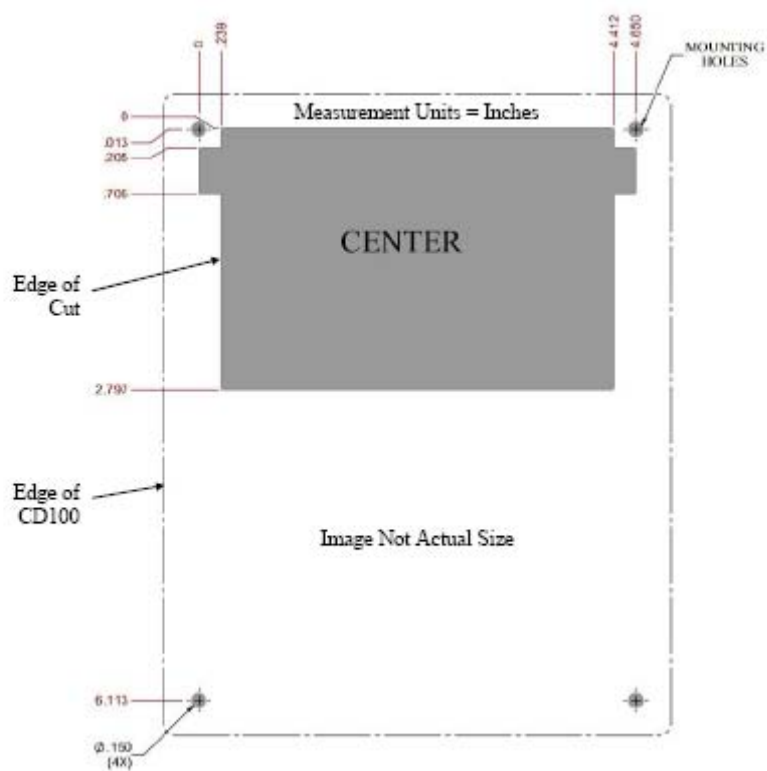

Figure 2. Template Measurements
1. Use the template shipped with the CD100 or create a template using the measurements shown in Figure 2. Template Measurements.